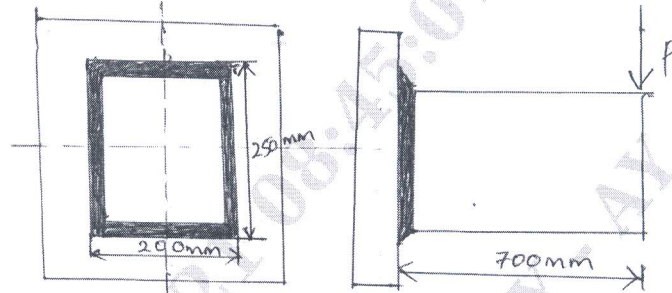

Fig. Q7 (b)
b. Determine the safe load that can be applied to the bracket as shown in Fig. Q7 (b). The size of the weld is 8 mm. Take allowable shear stress for weld 70 MPa. (12 Marks)